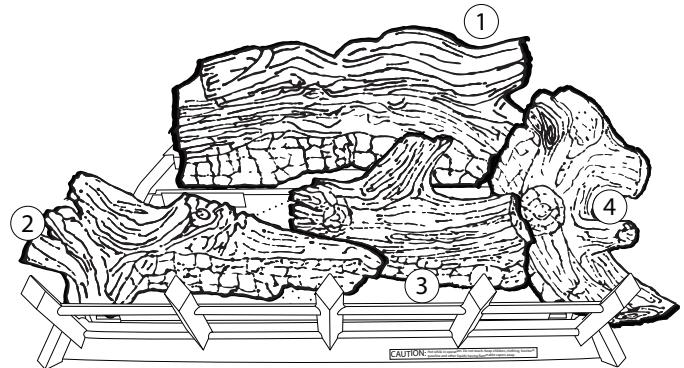

Figure 51.
4. Place the right log (#4) on the bar located on the right side of the burner. (See Figure 51)